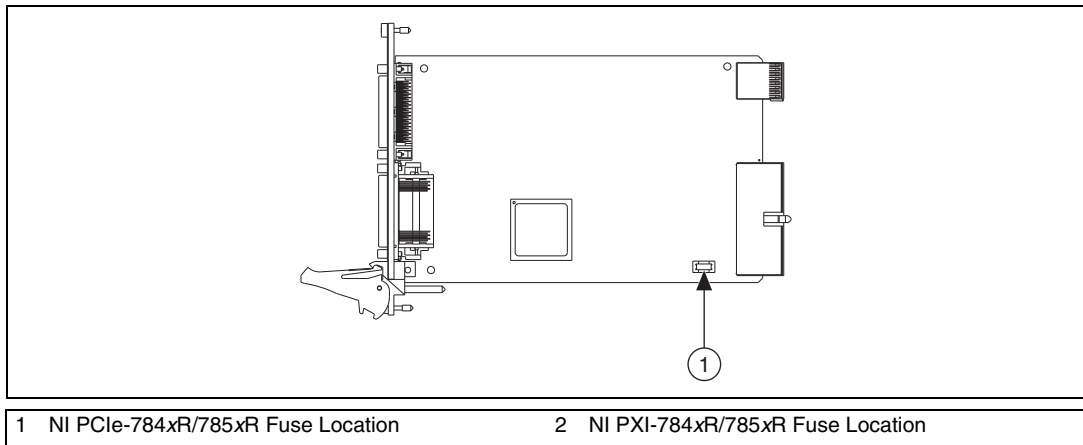

Figure 2-18. NI 784xR/785xR Replacement Fuse Location
3. Replace the blown fuse while referring to Figure 2-18 for the fuse locations.